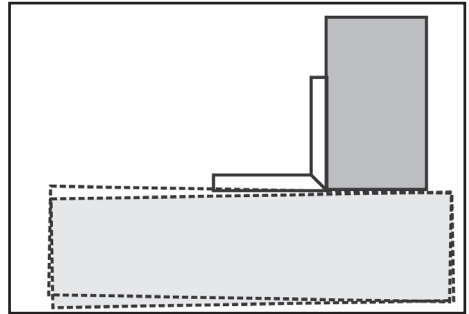

FIG.7
### 8.5 ENSURING THE TABLE TOP ALIGNS WITH ZERO DEGREES - FIGS.7 AND 8
**Note:** Ensure that the table is set to  $0^{\circ}$  with regards to the bobbin. Use a suitable  $90^{\circ}$  square and place on the table top surface, then move the square with the bobbin confirming that it measures  $90^{\circ}$  accurately (FIG. 7).